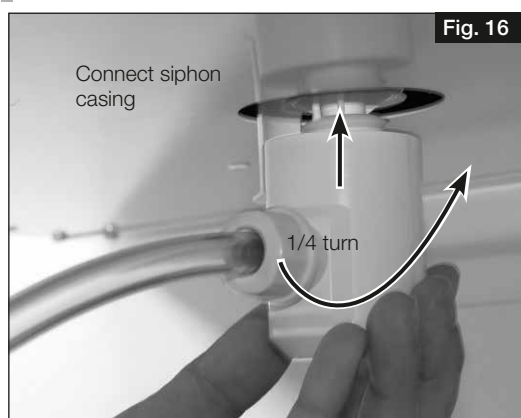

Fig. 16
5. Connect siphon casing and turn a 1/4 turn in the mounting part (see Fig. 16). Ensure that the float ball is loose in the casing!